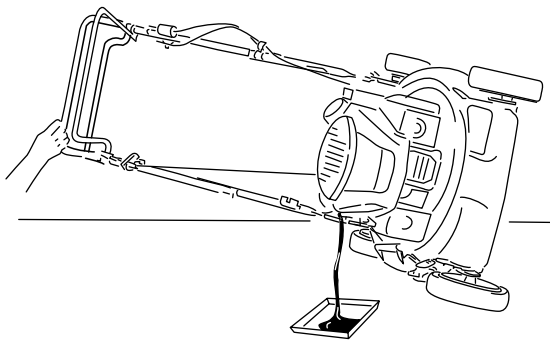

Figure 22
- 4. Tip the machine onto its side (so that the air filter is up) to drain the used oil from the oil-fill tube (Figure 22).